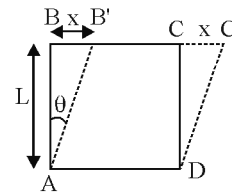

Fig. 5.7
3. **Shear strain:** When shear stress is applied then the shape of the body changes. Suppose tangential force F is applied along the upper surface of a body then the shape of the cross-section changes from a rectangle to a parallelogram. Lower edge AD remains fixed and upper edge BC displaced by x as shown in (Fig.5.7). Then shear strain is defined as the ratio of displacement of the upper edge to its perpendicular distance from the fixed edge.